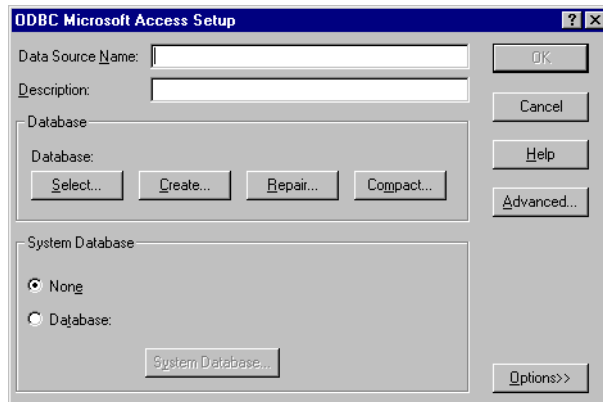

Figure B-21: ODBC Microsoft Access Dialog Box
5. In the ODBC Microsoft Access Setup dialog box (Figure B-21), type QUANTOX DB (uppercase letters, single space between QUANTOX and DB) in the Data Source Name field, and click the Select button.